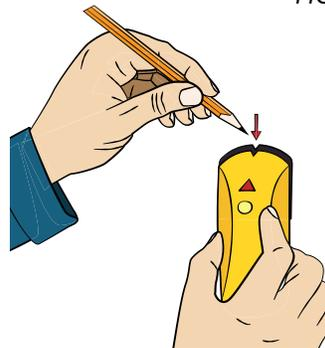

FIG. 9b
- b. Use a stud finder to identify where you will install the ductwork hangers in your shop. It must mount to a reinforced ceiling or wall (studs, joists, etc.) [FIG. 9b].